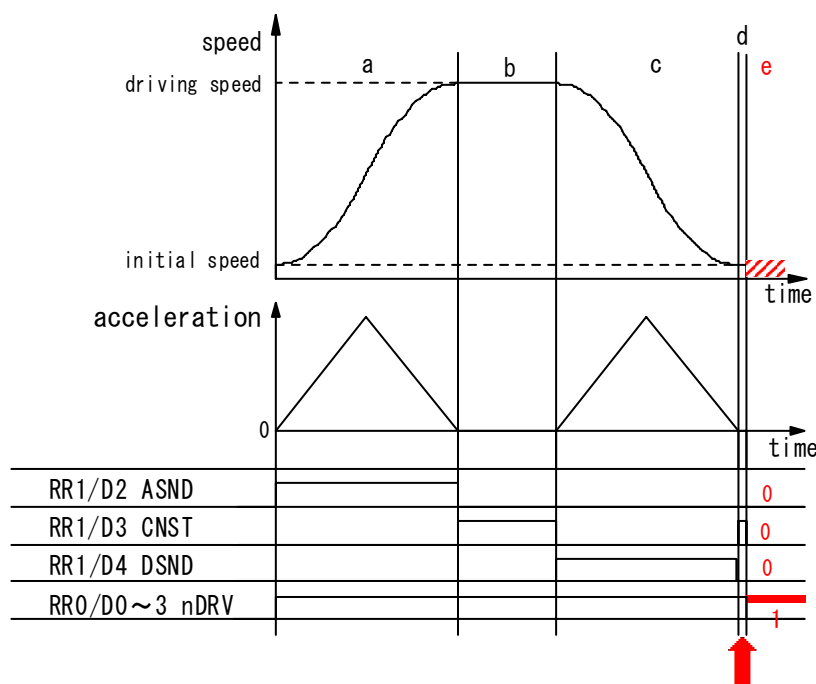

Figure 3. Status of deceleration shown by RR1 register
Deceleration status of accelerating(ASND), constant speed driving(CNST) and decelerating(DSND) can be read out according to RR1 register of IC. The status is shown as Figure 3. as below;
The timing when the trouble may possibly happen is shown as “d” on Figure 3. At this time, status of deceleration is constant speed driving(CNST=1). Besides in case the trouble such as outputting pulse continuously happens, all of ASND, CNST and DSND will become 0 even though it's driving(RR0/nDRV=1).
Basically once deceleration starts, it isn't necessary to execute deceleration stop command. Therefore deceleration stop command should be prohibit. See nRR1/D4(DSND) normally to know it's decelerating or not. Timing when the trouble happens is in “d” as shown on Figure 3 if deceleration stop command is executed. In “d” DSND status bit is 0 and CNST status bit is 1. Therefore the following two(2) solutions will be proposed.
(1) When interruption from IC can be used
Terms when deceleration stop command should be executed in accelerating and constant speed driving such as "a" and "b" on Figure 3. Status of deceleration for both "d" (timing when the trouble happens) and "b" (constant speed driving) is same as constant speed driving as shown on Figure 3. But there is difference of driving speed between two. Driving speed in "b" is near that of setting driving speed. Driving speed in "d" is near that of initial speed. Therefore before driving starts, prepare judgmental speed which is middle one between initial speed and setting speed ($(\text{Driving speed} - \text{initial speed})/2 + \text{initial speed}$). When execute deceleration stop command during driving, make sure status is accelerating(ASND=1) or constant speed driving(CNST=1) and driving speed is same or faster than judgmental speed.
Constant speed area ("b" area) on Figure 3 is set as occurrence factor of interruption. But this interruption is also happened when there is "d" area just before driving stops on Figure 3 such as when driving speed reaches initial speed or when acceleration becomes 0(zero). There should occur "d" area definitely if the trouble is happened just before driving stops, driving speed hasn't reached initial speed yet, acceleration becomes 0 and decelerating stop requirement is executed. The measure is to judge if the trouble happens or not in the timing of interruption when "d" area ends.
- ① Check if driving goes out constant speed area or not. If $RR3/D5(C-END)$ bit of driving axis is 0, there are other interruption factors. Execute those interruption processing.
- ② Check if driving goes into decelerating area or not. If it's $RR1/D4(DSND)=1$, make it finished as it goes because driving goes into "c" area from "b" area on Figure 3. If it's $RR1/D4(DSND)=0$, move it to ③ processing because driving has gone out "d" area.
- ③ Check if driving has finished or not. If it's finished, make it finished as it goes because driving has finished normally. But if it's not finished yet, surely trouble have happened because status is shown as it's still driving even though driving has gone out "d" area.
- ④ Check if hard limit is ON or OFF. Since $RR1/D12$ bit becomes 1 if + limit is ON and $RR1/D13$ bit becomes 1 if - limit is ON, if it's $D12=1$ or $D13=1$, judge forward limit is ON.
- ⑤ If trouble has happened, it becomes $ASND=CNST=DSND=0$. Check them all.
- ⑥ Execute sudden stop command(27h).
(2) When interruption can't be used
In "d" area on Figure 3, if forward limit is active, the trouble will happen, more exactly saying, it will seldom happen. There isn't any method to avoid it before it happens. So immediately after the trouble happens, take means to stop driving. If the trouble happens ("e" area on Figure 3), status keeps driving($RR0/nDRV=1$), status of acceleration/deceleration is 0 in ASND, CNST, DSND. This is completely abnormal state. So the example of measure is shown as follows;